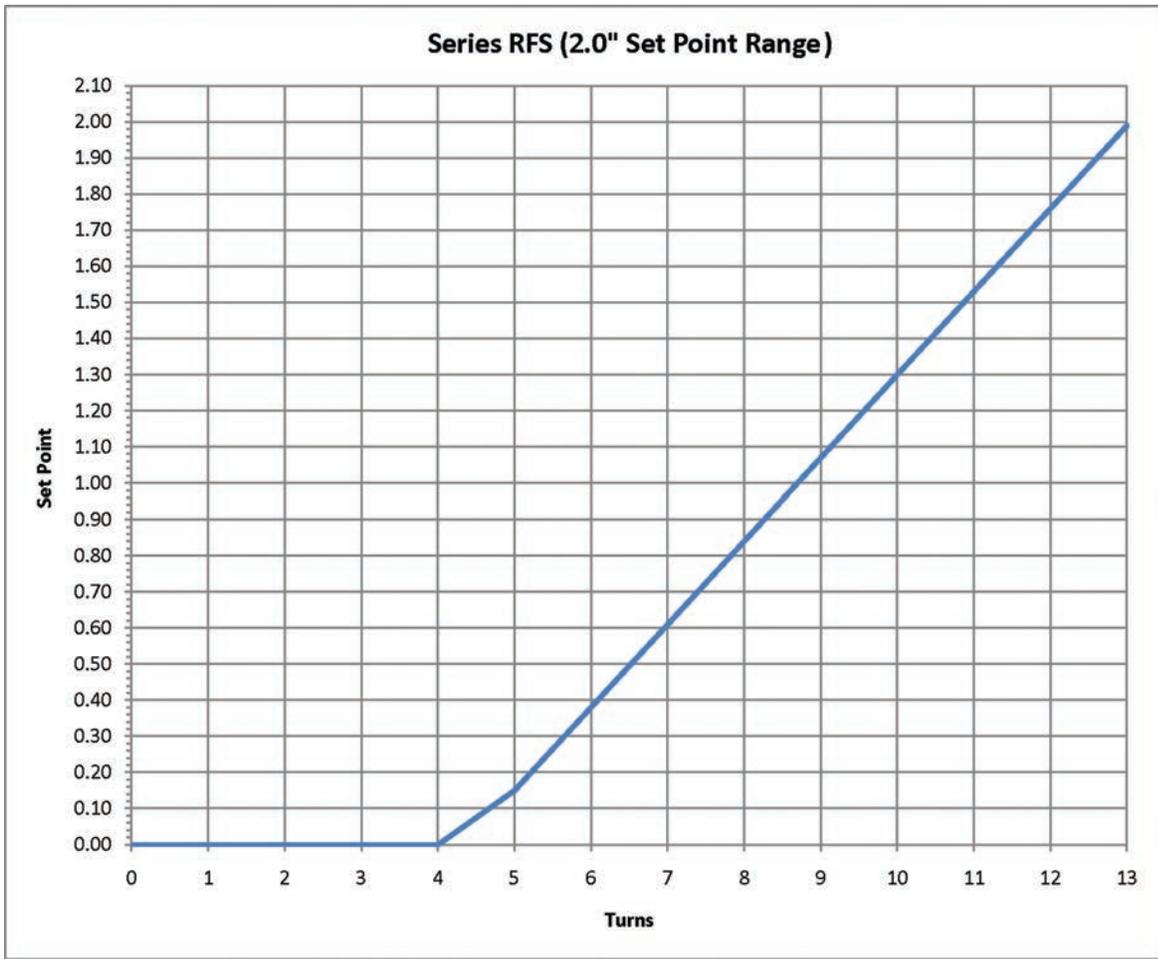

Figure 1
**Series RFS** switches ship from the factory set to their minimum set points of 0.15" wc. When changing the set point of an air switch, do not exceed the maximum number of turns of the adjustment screw: eight (8) full turns, after five (5) initial turns required to engage the spring. The eight (8) full turns cover the entire set point range of either 0.15 to 2.0"wc, or .15 to 5.0"wc, as shown in Figures 1 and 2.
Turn the adjusting screw counter-clockwise until motion has stopped. Next, turn the adjusting screw five complete turns in a clockwise direction to engage the spring. From this point, the next eight turns will be used for the actual calibration: Each full turn represents approximately 0.23" wc. See Figure 1 (on page 2).